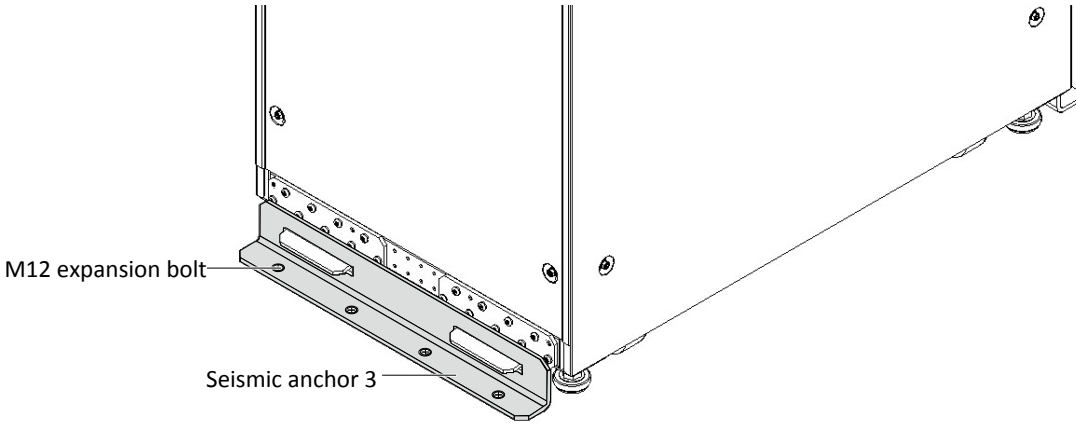

Figure 8-13 Installing seismic anchor 3
3. As shown in Figure 8-13, use four M12 expansion bolts to fix seismic anchor 3 on the ground, then push the UPS backward to insert seismic anchor 1 and seismic anchor 2 into the two holes of seismic anchor 3 respectively.